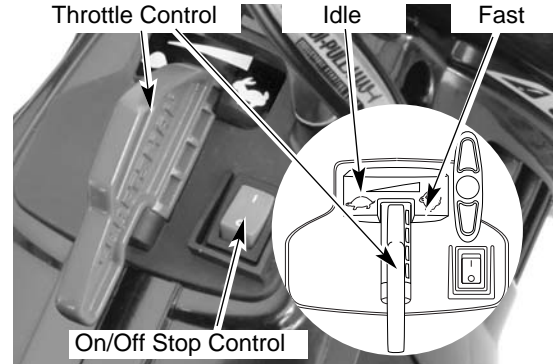
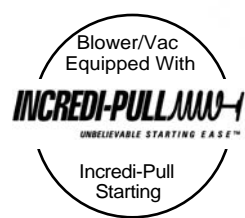
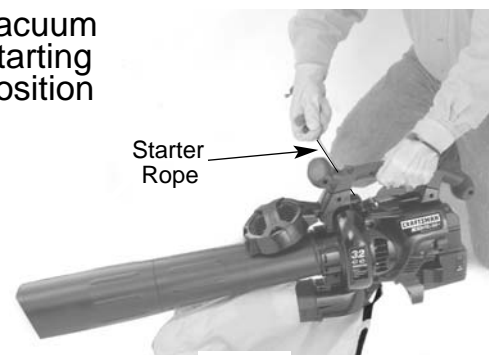

Fig. 9
Fig. 11
Fig. 12
**WARNING:** Avoid accidental starting. Make sure you are in the starting position when pulling the starter rope (Fig. 11 and 12). To avoid serious injury, the operator and unit must be in a stable position while starting. Do not set unit on any surface except a clean, hard area while starting. Debris such as gravel, sand, dust and grass could be picked up by the air intake and thrown out by the discharge opening. This could damage the unit, property, or cause serious injury to bystanders or the operator.
4. Place the unit in the starting position (Fig. 11) as a blower, Fig. 12 as a vacuum). Move the throttle control to the idle position (🐢) (Fig. 9). This is especially important during cold starting.